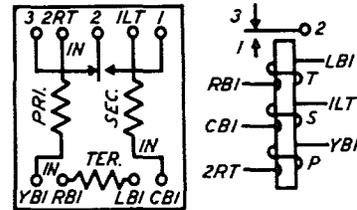

FIG. 4 - WINDING AND SPRING TERMINAL ARRANGEMENT AS VIEWED FROM THE REAR (TERMINAL SIDE) - L, N AND S TYPE RELAYS
2.16 As viewed from the rear of the relay the winding and contact spring terminals are numbered consecutively from right to left as described in 2.07 to 2.11, inclusive (See Fig. 4).